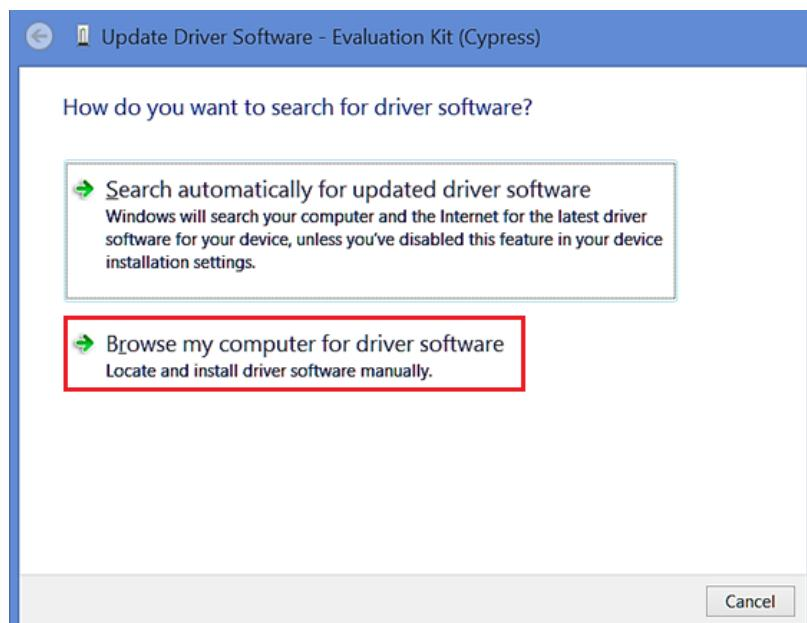

Figure 15: Update Driver Software - 1
- Right-click the “Evaluation Kit (Cypress)” item, and choose “Update Driver Software ...” A new window should open. Select “Browse my computer for driver software” (Figure 15)